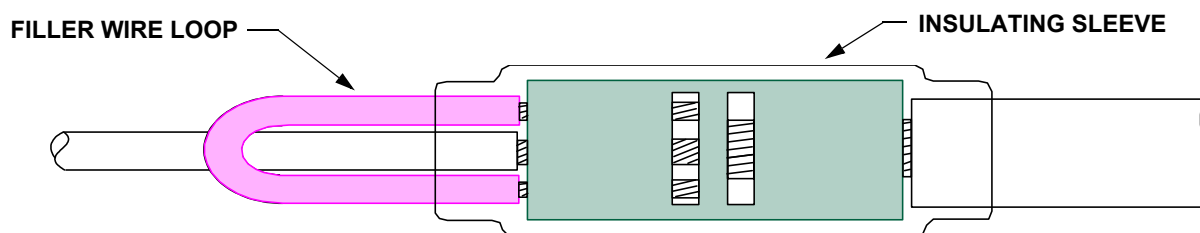

FIGURE 4 - LOOPED FILLER WIRE METHOD
| FIGURE 4 - LOOPED FILLER WIRE METHOD..... | 10 |
- Step 3. Form the length of filler wire into a loop as shown in Figure 4.